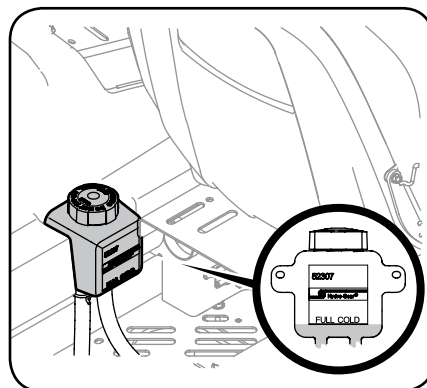

Figure 4-6
1. Pivot the operator's seat forward and clean the reservoir cap and the area around the cap to prevent debris from contaminating the transmission oil. See Figure 4-6.
2. Turn the reservoir cap counterclockwise to re-move, then check the oil level in the reservoir. Oil should be visible at the bottom of the cup, but the oil level must NOT be above the "FULL COLD" line. See Figure 4-6. DO NOT FILL THE RESERVOIR.